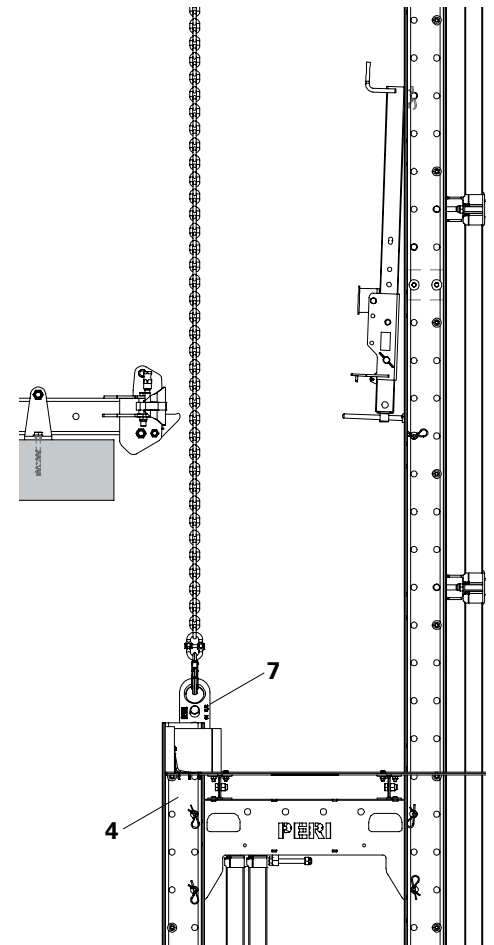

Fig. B2.03
- Mount Crane Eye BR 2.5 t (7) with Spacer LPS 52 (2.1) at the top end of the climbing rail (4). (Fig. B2.03)